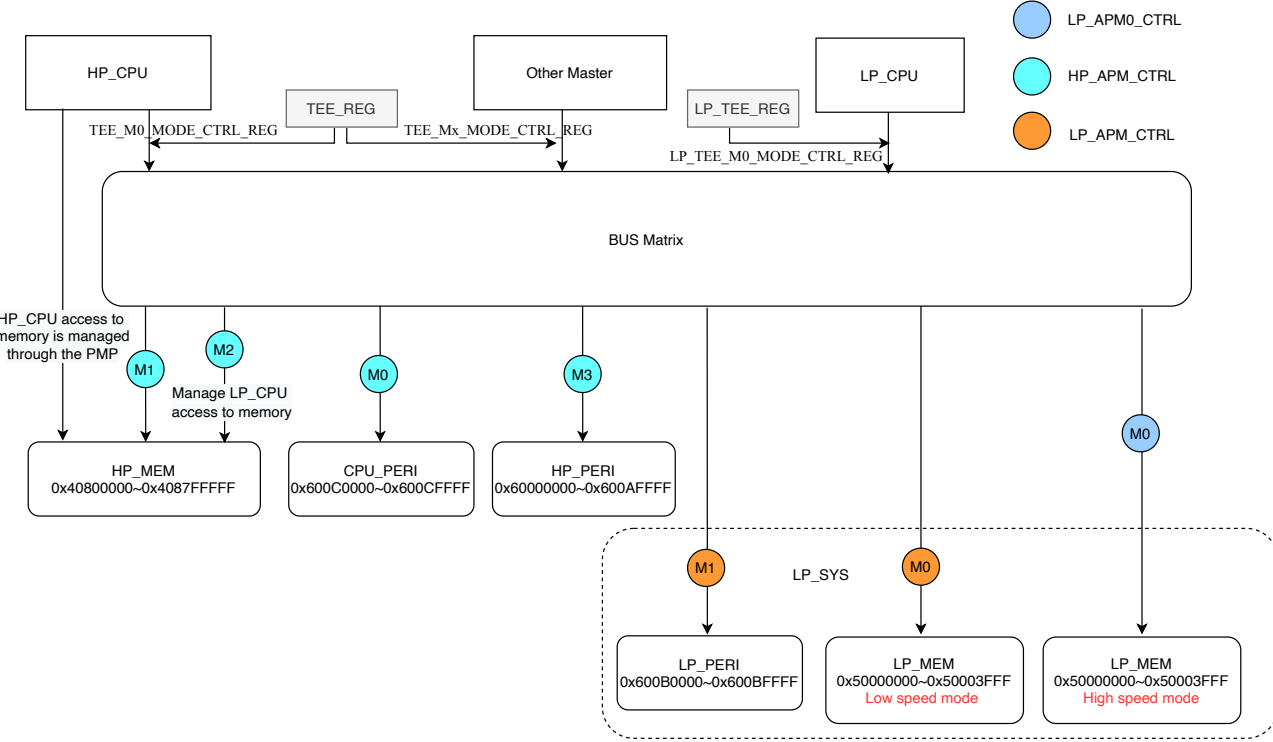

Figure 16.3-1. APM Controller Structure
Figure 16.3-1 shows the access path managed by the APM controller.
As shown in the Figure 16.3-1, APM controller contains 3 functional modules: HP_APM_CTRL, LP_APM0_CTRL and LP_APM_CTRL, configured by the register modules HP_APM_REG, LP_APM0_REG and LP_APM_REG respectively.
- HP_APM_CTRL manages 4 access paths, namely M0-M3 in the figure 16.3-1. Permission management of each path can be enabled by configuring HP_APM_FUNC_CTRL_REG (enabled by default).
- LP_APM0_CTRL manages one access path, namely M0 in the figure 16.3-1. Permission management of this path can be enabled by configuring LP_APM0_FUNC_CTRL_REG (enabled by default).
- LP_APM_CTRL manages 2 access paths, namely M0 and M1 in the figure 16.3-1. Permission management of each path can be enabled by configuring LP_APM_FUNC_CTRL_REG (enabled by default).
Different access paths managed by the same register module share the configuration of address ranges and access permissions. For example, the permission management of data path HP_APM M0-M3 shown in figure 16.3-1 should follow the address ranges and access permissions of each address range configured in the register module HP_APM_REG. Likewise, the permission management of data path LP_APM M0-M1 shown in figure 16.3-1 should follow the address ranges and access permissions of each address range configured in the register module LP_APM_REG.
These seven interrupt signals correspond to the controlled access paths shown in Figure 16.3-1. If an illegal access occurs in a controlled access path, the corresponding interrupt will be generated.